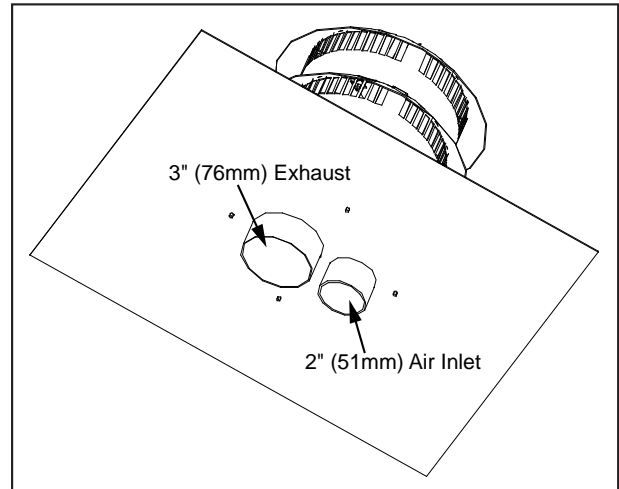

Figure 29: Vertical Vent Cap Underside.
6. Place a bead of high temperature silicone on the intake collar of the fireplace, slide the Ø2" (51mm) flex intake liner over the collar, secure the flex liner with three (3) sheet metal screws evenly spaced.
7. At the top of the chimney, apply a bead of Mill-Pac Black sealant to the Ø3" (76mm) pipe of the vent terminal (refer to Figure 29). Slide the flex liner onto the vent terminal and secure with three (3) sheet metal screws evenly spaced.
8. Place a bead of high temperature silicone on the intake collar of the vent terminal (refer to Figure 29). Slide the Ø2" (51mm) flex intake liner over the collar, secure the flex liner with three (3) sheet metal screws evenly spaced.